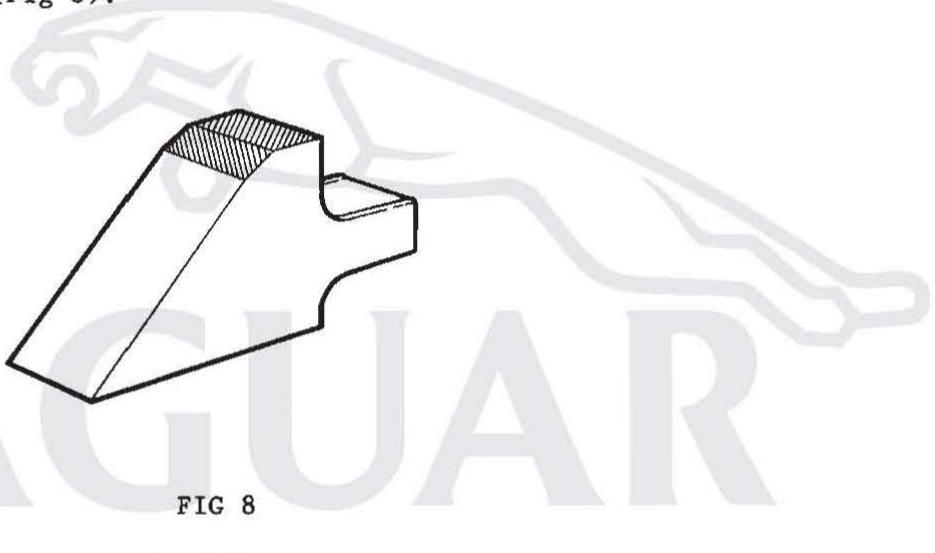

FIG 8
1. Mark the riser blocks with a suitable material, e.g. Tipp-ex correction fluid (Fig 8).